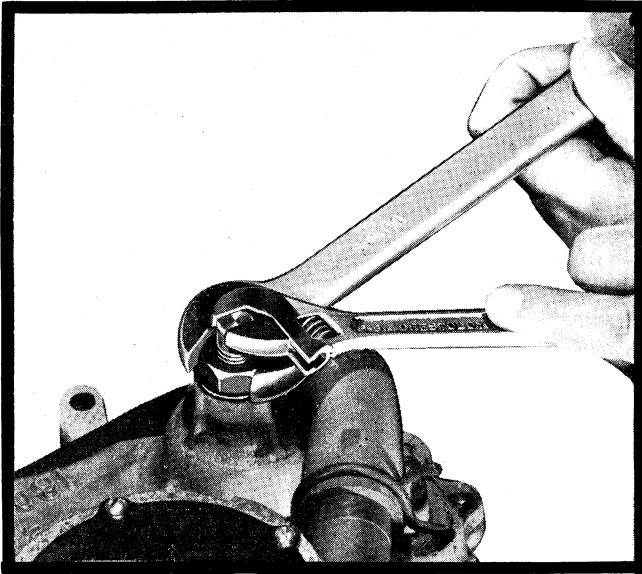

Figure 135
- b) Eccentric adjustment (Shop procedure). To adjust the eccentric stud, hold the jam nut with one wrench and turn the stud with another wrench, *Figure 135*. Adjust the stud until the main drive pinion pulley has a slight drag when turned by hand.